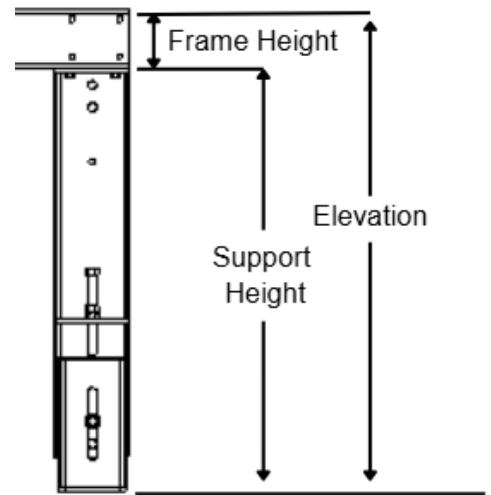

Figure A-1 - Support Height Adjustment, Jack Bolts
- See *Figure A-1*. Determine your desired conveying height (ELEVATION). Measure the conveyor frame then subtract this measurement from the height you set the support to. Desired ELEVATION minus frame height equals support height.